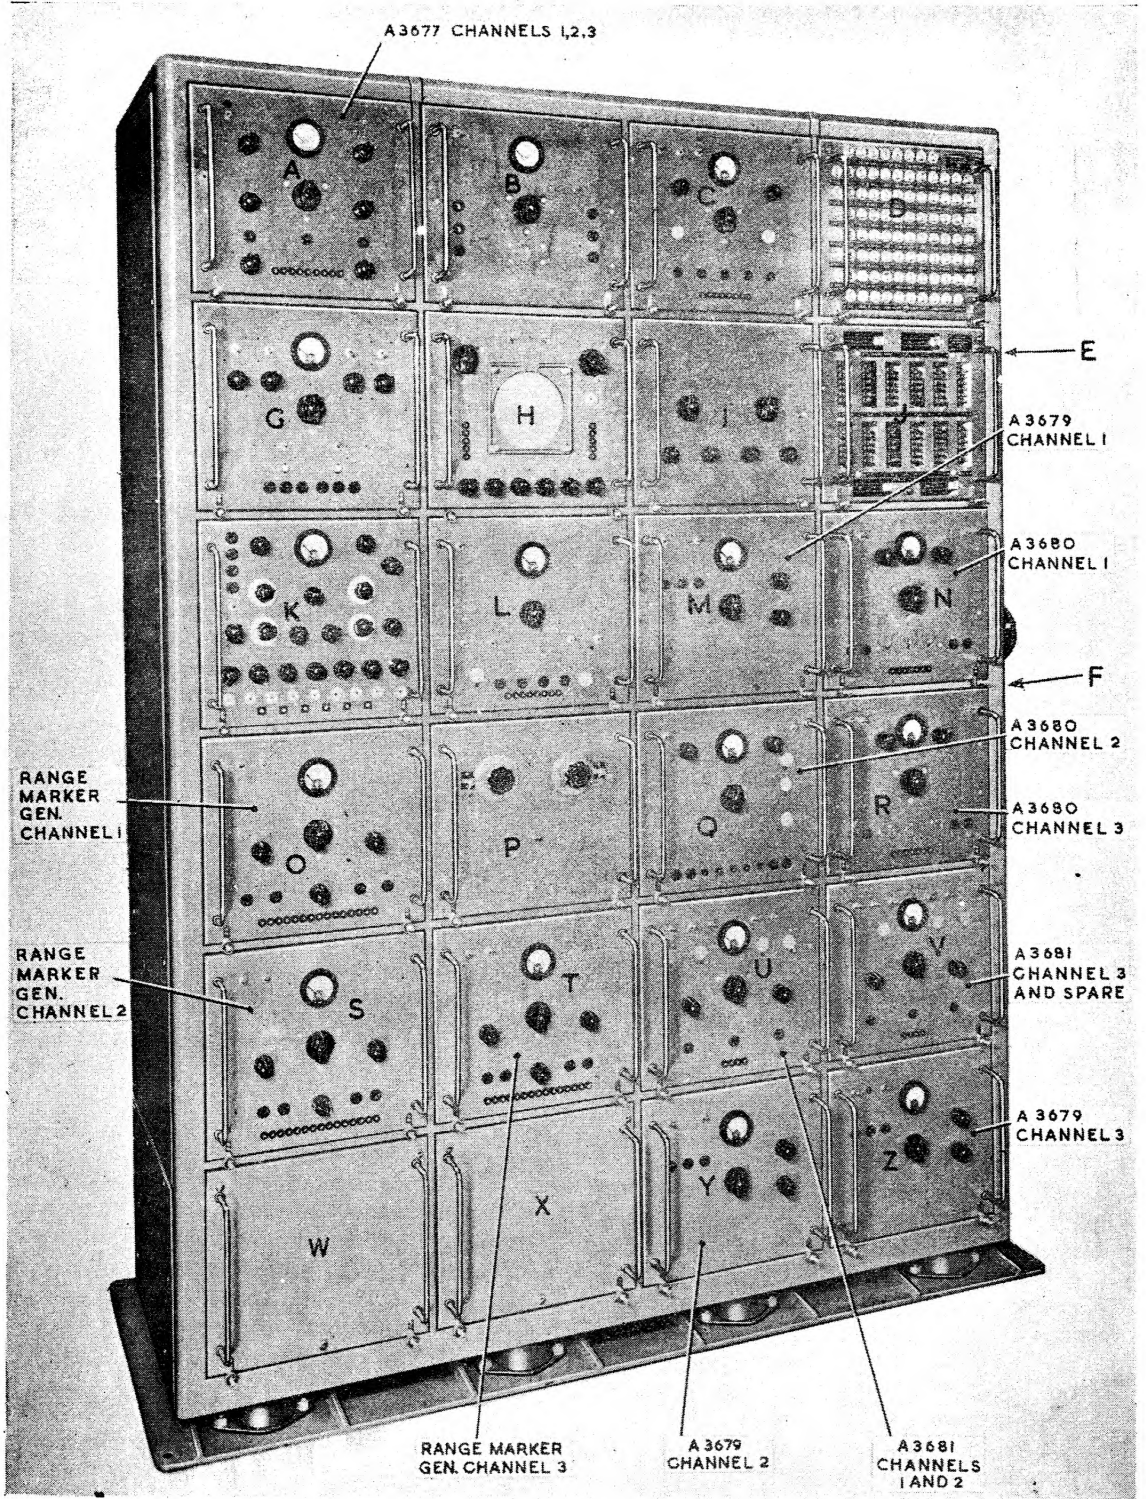

Fig. 4. Rack assembly Type 165—channel identification
- (1) Disconnect the normal sync. inputs from the aerial heads by removing the plugs from SK1/19, SK2/19, and SK3/19, on the right-hand side connection panel (Panel F, fig. 4).
- (2) Connect SK50 on the signals outlet panel Type 620 (Panel D) to SK22 on the same panel; this connects the video echo output of the test set Type 402 to the sync. input circuit of the first marker generator (Panel O).
- (3) Set the test set Type 402 sync. selector switch (SYNC. FREQ. c/s) to the 506 c/s position.
- (4) Remove the right-hand rear cover from the rack to give access to the backs of the monitoring unit Type 75 and the test set Type 402.
- (5) Disconnect the sync. input plug from SK1 on the rear of the monitor, and the sync. output plug from SK21 on the rear of the test set.
- (6) Connect SK1 on the monitor to SK21 on the test set; this puts the test set sync. into the monitor.
- (7) Connect the 5 MILE output socket on the front of the test set to the SIGNAL INPUT socket on the front of the monitor; this connects the test set 5-mile markers to the monitor CRT Y2-plate.
- (8) Turn the MONITORING switch on the switch unit (monitor) Type 296 (Panel I) to position 5 and the CHANNELS switch to 1; this puts the 5-mile output of the first marker generator on to the monitor CRT Y1-plate through the internal amplifier.
- (9) Turn the range controls on the marker generator to maximum.
- (10) Turn the RANGE and GAIN controls on the monitor to maximum and set the STROBE switch to OFF.
- (11) Replace the rear cover and switch on the gate switch and the units.